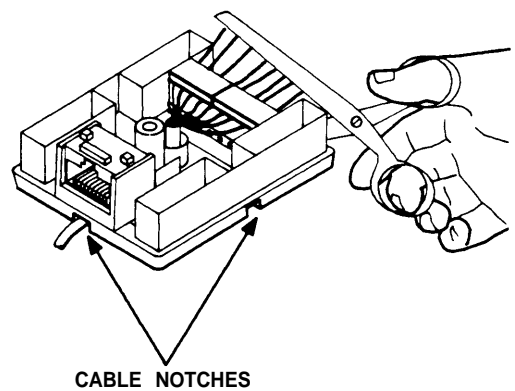

Figure 4
cutters, near the plastic caps, ensuring that the wire ends are not touching each other (Figure 4).
8. Align the cable in one of the notches in the base of the customer-installable jack depending on the direction you want the cable to leave the block (Figure 4).